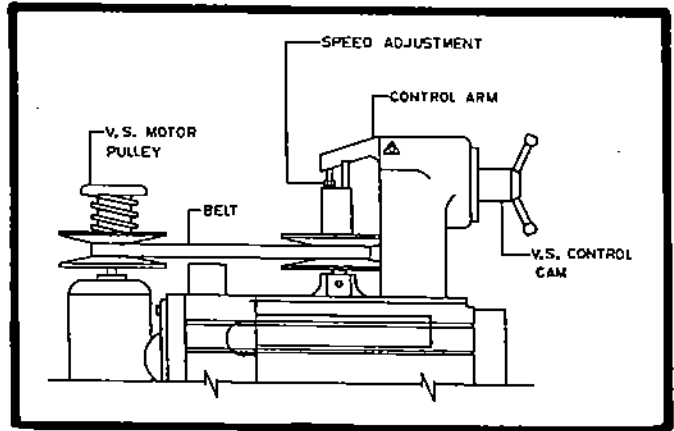

Figure 4
- d. Before replacing guard—temporarily replace variable speed cam (Fig. 4). Turn machine on and set variable speed rate at 2500. The belt should be in a horizontal plane at this point. If belt is cocked at an angle, loosen motor pulley and move on shaft until belt is level. Secure setscrew. (See section on changing speeds for setting speed range.)
If spindle speed does not appear to match the dial speed on variable speed unit—check speed with a tachometer and adjust by turning bolt on control arm (see Fig. 4) clockwise to increase speed and counter-clockwise to decrease.